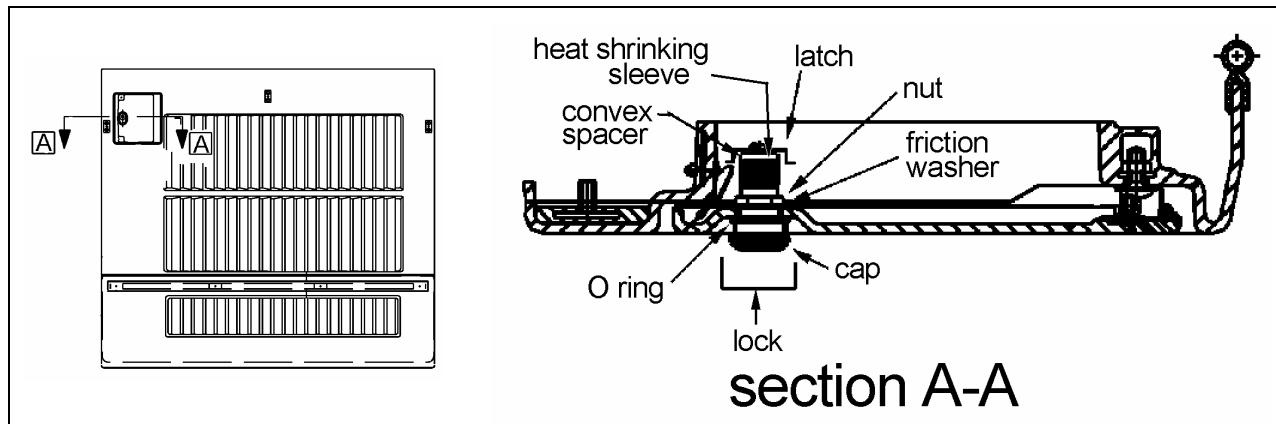

FIGURE 7: SMALL FUEL FILLER DOOR
1. From the inside, remove the latch. Unscrew the nut retaining the lock and then remove the lock (figure 7).
2. Fit the cap to the lock and place the O-ring in order to have it pressed between the door and the cap once installed (figure 7).